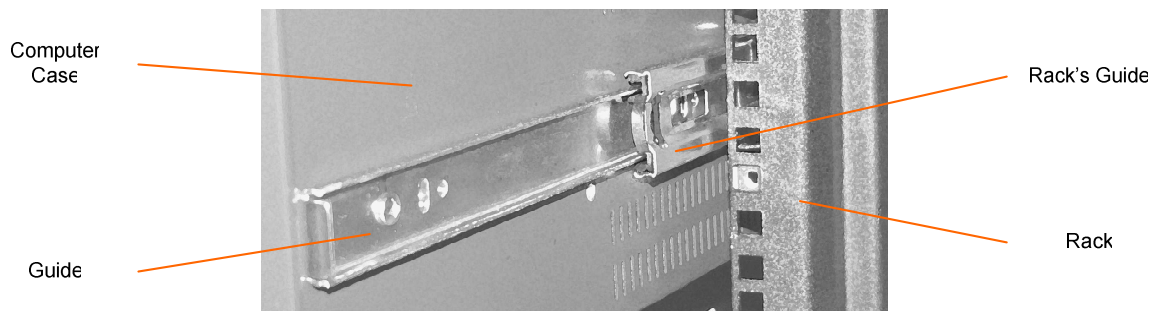

Figure 1.5: Guide of computer case.
- Move out guides from the rack, coincide with guides on control computer case and move computer inside the rack up to the stop. (Figure 1.5)